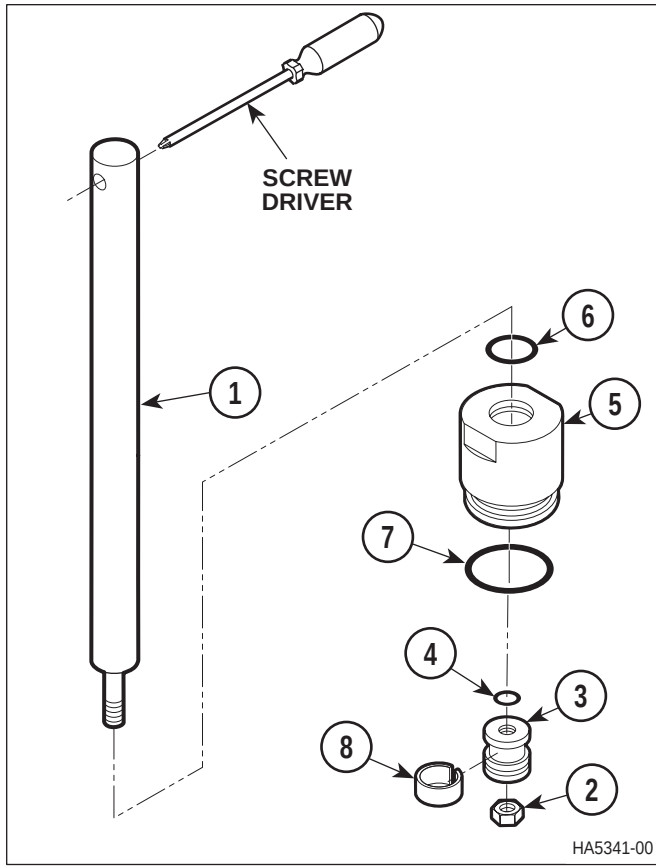

Figure 4-18. Cylinder Rod Assembly Disassembly / Assembly
- (8) Using a screwdriver to hold end cap (2) stationary, remove cylinder tube (3) from end cap.
- (9) Remove o-rings (4 and 5) from end cap (2). Discard o-rings.
- (10) Remove ball retainer (6) from end cap (2). Discard ball retainer.
- (11) Using a screwdriver to hold cylinder rod assembly (1, Figure 4-18) stationary, remove jam nut (2), piston assembly (3), and o-ring (4) from cylinder rod assembly (1). Discard jam nut, piston assembly, and o-ring.
- (12) Slide rod end cap (5) off of *bottom* of cylinder rod assembly (1). Discard rod end cap.
- (13) Clean all metal components with a cleaning solvent. Dry components thoroughly.
- (1) Coat o-rings (6 and 7, Figure 4-18) with Vaseline or oil.